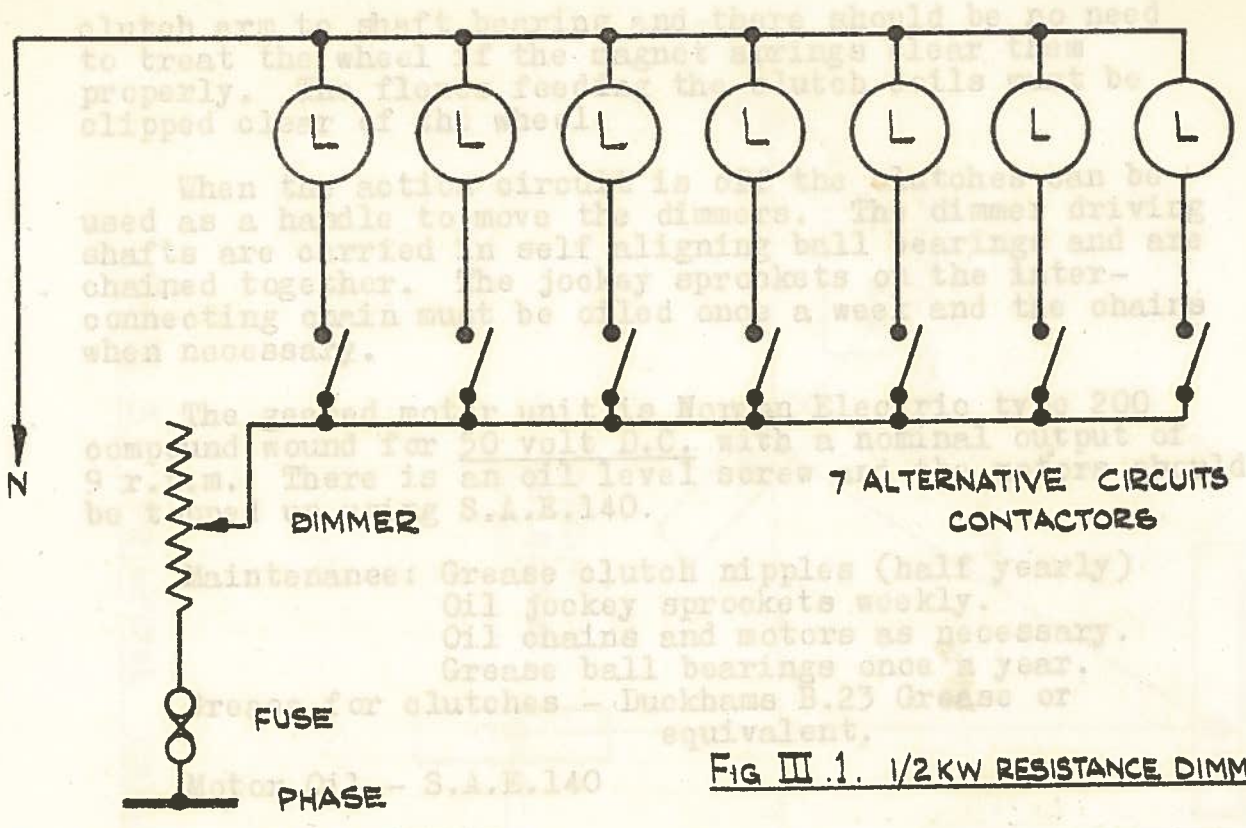

FIG III.1. 1/2KW RESISTANCE DIMMER
**DIMMERS:** The majority are 100 contact element type 1/2Kw Type A resistances and the circuit is as fig.III.1 Each dimmer has an off contact at dim end of travel. These dimmers are not tied to one circuit and the seven alternative circuit contactors, any one of which may have to act as channel blackout, are shown. Each channel shares some of its alternative circuits with its neighbouring channels. Consequently just as a channel will have several contactors, so approaching from each particular lamps point of view, there will be several, the number varying from 1-7. (See Part II - 5 for clues, and drawing R & D.3813)
The majority of the channels do not have a single contactor but seven as shown in fig. III.1. This means